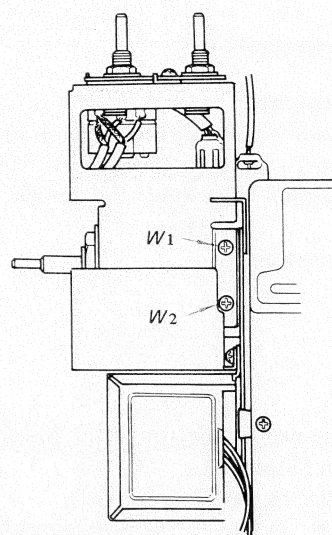

Fig. 2-27
3. Remove the two screws labeled W1 and W2 in Fig. 2-27.